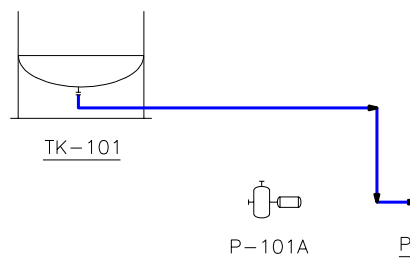

Figure 2-52 Line connecting the vessel and the pump
2. Connect the line to the horizontal nozzle of the pump tagged **P-101B**. The line created should be similar to the one shown in Figure 2-52. In this tutorial, this line is referred as inlet line of the pump.